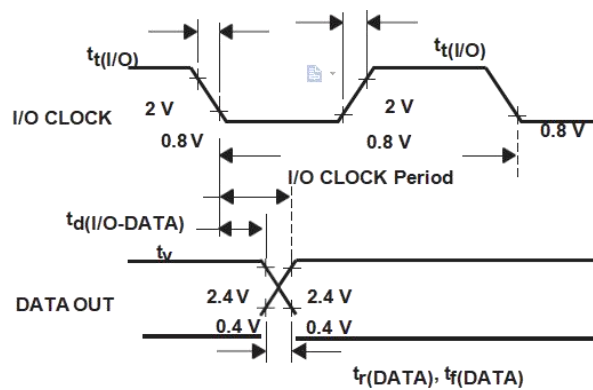

Figure 6. I/O CLOCK and DATA OUT Voltage Waveforms
6. I/O CLOCK period = $1/(\text{I/O CLOCK frequency})$ (see Figure 6)